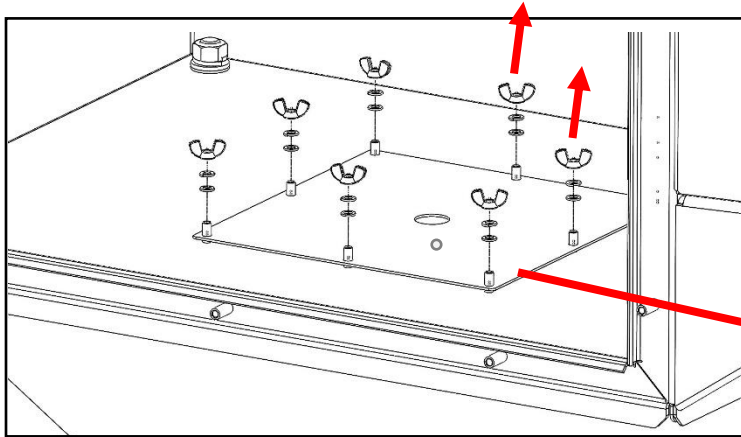
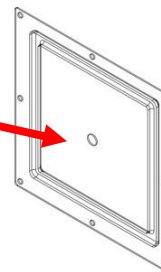

Figure 13 – Location of Removable Plate inside bottom of charger
Figure 14 – Down-side of Removable Plate
6. Remove all 8 sets of M5 wingnut, split washer, and flat washer securing removable plate to charger (Figure 13) and then remove plate (Figure 14), taking care not to damage gasket attached to down-side of plate.